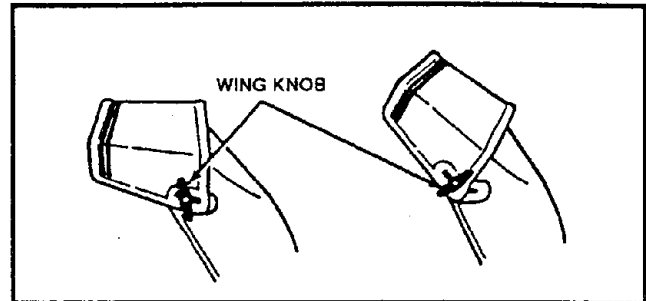

FIG. 2-OP
- Loosen the wing knob on the chute deflector and move the deflector to set the distance. Move the deflector "UP" for more distance, "DOWN" for less distance. Then tighten the wing knob (FIG. 2-OP).